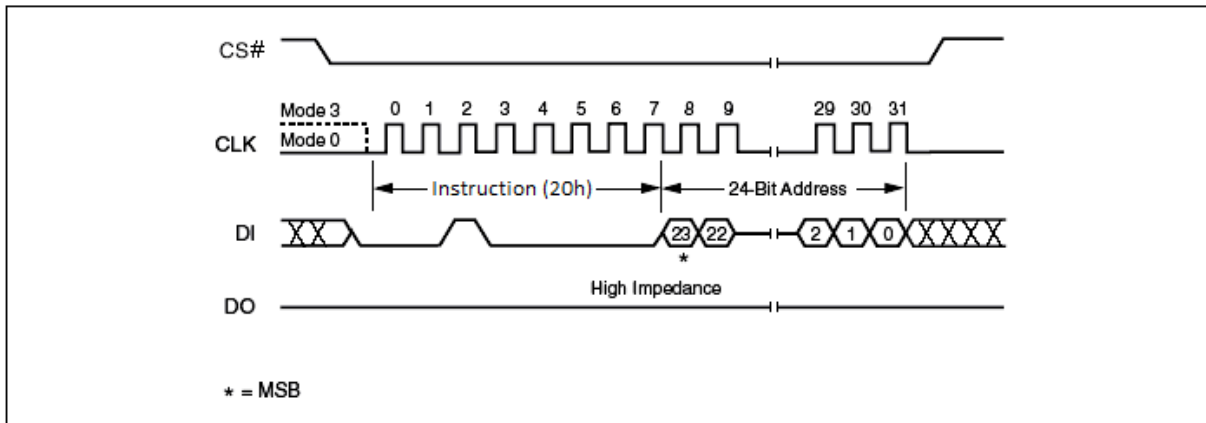

Figure 36. Sector Erase Instruction Sequence Diagram
The instruction sequence is shown in Figure 36. Chip Select (CS#) must be driven High after the eighth bit of the last address byte has been latched in, otherwise the Sector Erase (SE) instruction is not executed. As soon as Chip Select (CS#) is driven High, the self-timed Sector Erase cycle (whose duration is  $t_{SE}$ ) is initiated. While the Sector Erase cycle is in progress, the Status Register may be read to check the value of the Write In Progress (WIP) bit. The Write In Progress (WIP) bit is 1 during the self-timed Sector Erase cycle, and is 0 when it is completed. At some unspecified time before the cycle is completed, the Write Enable Latch (WEL) bit is reset.